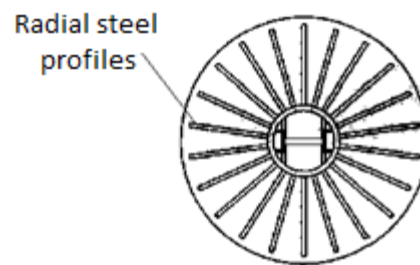

Fig.6: Cover – New design – Top View
2. A steel ring core that bears radial profiles to form a more efficient structure (fig.6).